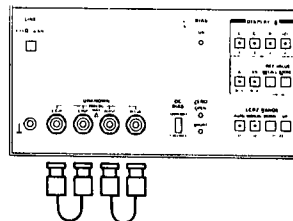

Figure 5-10. A2 Modulator Zero Offset Preadjustment.
- c. Connect BNC-to-BNC cable between H cur and H pot connectors and another BNC-to-BNC cable between L cur and L pot connectors of 4274A unknown terminals as shown Figure 5-10.